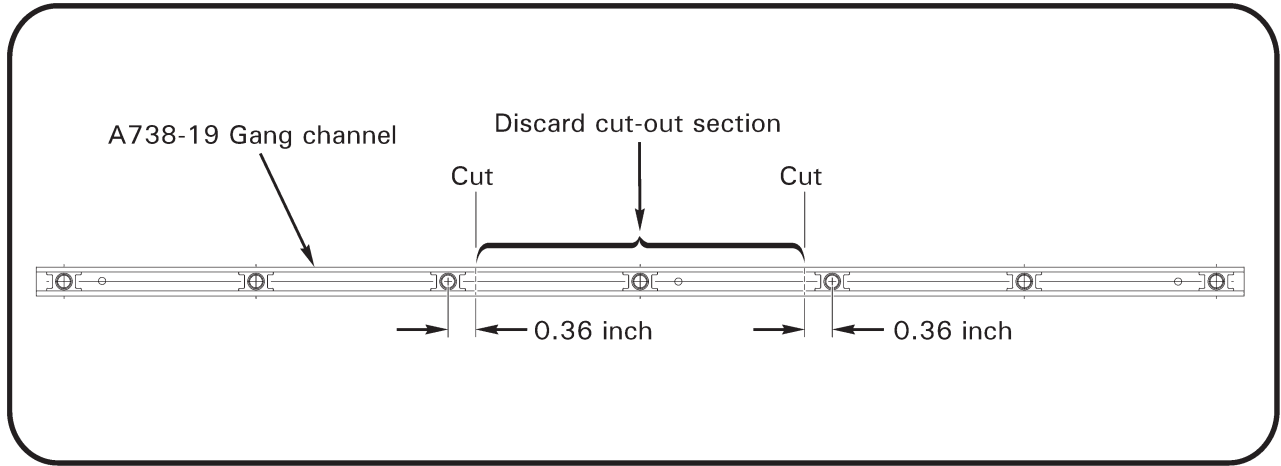

FIGURE 2 Create two gang channels
4. Refer to Figure 2. Mark cutting lines on each side of center nutplate of gang channel using dimensions shown. Cut out center (nutplate) section using high-speed metal cutting wheel or similar tool; discard center section. Deburr rough edges of remaining two pieces. If required, sides of gang channel (at cut ends) may be squeezed inward to facilitate retention of nuts, ensuring nut is free to float longitudinally.